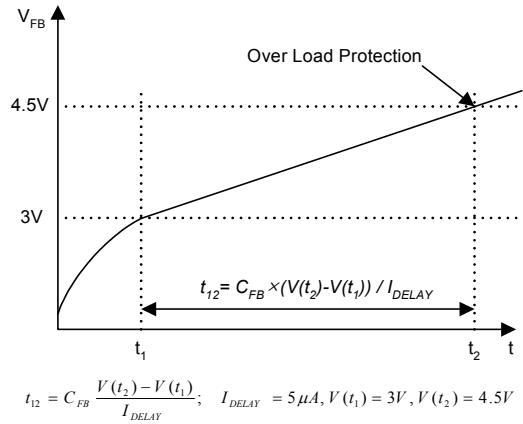

Figure 10. Over Load Protection (OLP)
4.1 Over Load Protection (OLP) : Overload is defined as the load current exceeding a pre-set level due to an unexpected event. In this situation, the protection circuit should be activated in order to protect the SMPS. However, even when the SMPS is operating normally, the over load protection (OLP) circuit can be activated during the load transition. In order to avoid this undesired operation, the OLP circuit is designed to be activated after a specified time to determine whether it is a transient situation or an overload situation. In conjunction with the Ipk current limit pin (if used) the current mode feedback path would limit the current in the Sense FET when the maximum PWM duty cycle is attained. If the output consumes more than this maximum power, the output voltage (Vo) decreases below its rating voltage. This reduces the current through the opto-coupler LED, which also reduces the opto-coupler transistor current, thus increasing the feedback voltage (VFB). If VFB exceeds 3V, the feedback input diode is blocked and the 5μA current source (IDELAY) starts to charge Cfb slowly up to Vcc. In this condition, VFB increases until it reaches 4.5V, when the switching operation is terminated as shown in Figure 10. The shutdown delay time is the time required to charge Cfb from 3V to 4.5V with 5μA current source.